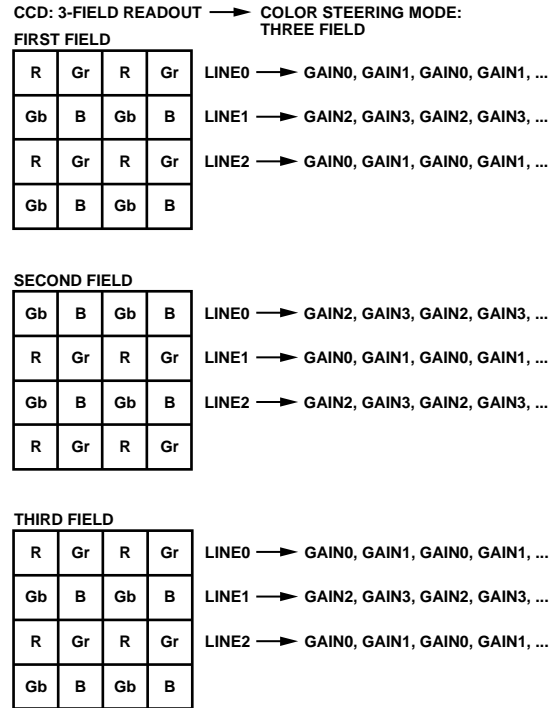

Figure 32. CCD Color Filter Example—Three-Field Readout
A third type of readout uses the Bayer pattern divided into three different readout fields. The 3-field mode should be used with this type of CCD (see Figure 32). The color steering performs the proper multiplexing of the R, G, and B gain values (loaded into the PxGA gain registers) and is synchronized by the user with vertical (VD) and horizontal (HD) sync pulses. For timing information, see Figure 35.